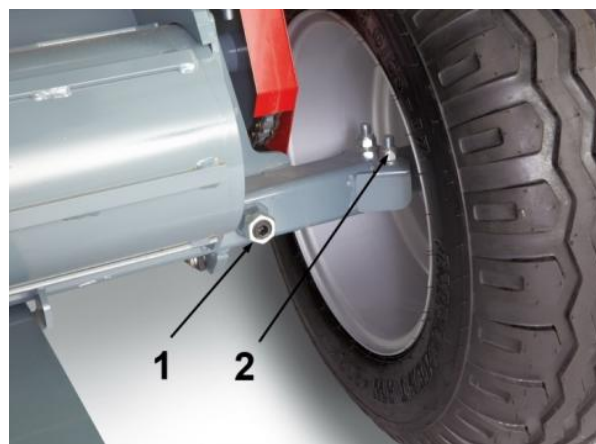

Fig 7 -Axle
**Before starting to work control that the axle is in correct position and the screws (1) and (2) Fig. 7 are locked.**
For working on mountain, hill and in presence of high slopes, for obtaining a wider carriageway, unscrew the screws of U-bolt (2 Fig.7) and screw (1 Fig.7), unthread the hub in the position need and screw the screws.